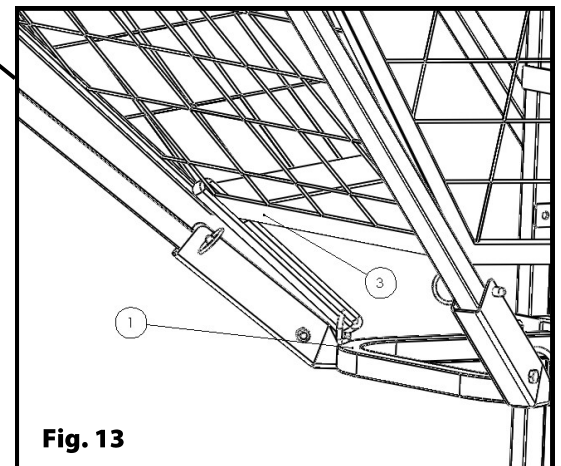

Fig. 13
C: Attach Velcro (28) on Net (3) to corresponding D ring on Horizontal frame (1). Repeat on other three D rings. See figure 13.
- Release Velcro holding bottom of net to Horizontal frame. Pull down net so it is tight and loop Velcro back around net.** (See figure 13 on page 7.)